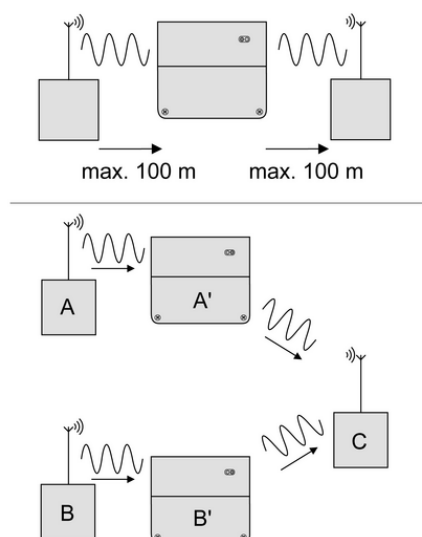

Figure 3
- Several repeaters can be installed in a single system, e.g. two transmitters **A + B** transmit to a single actuator **C** (Figure 3)